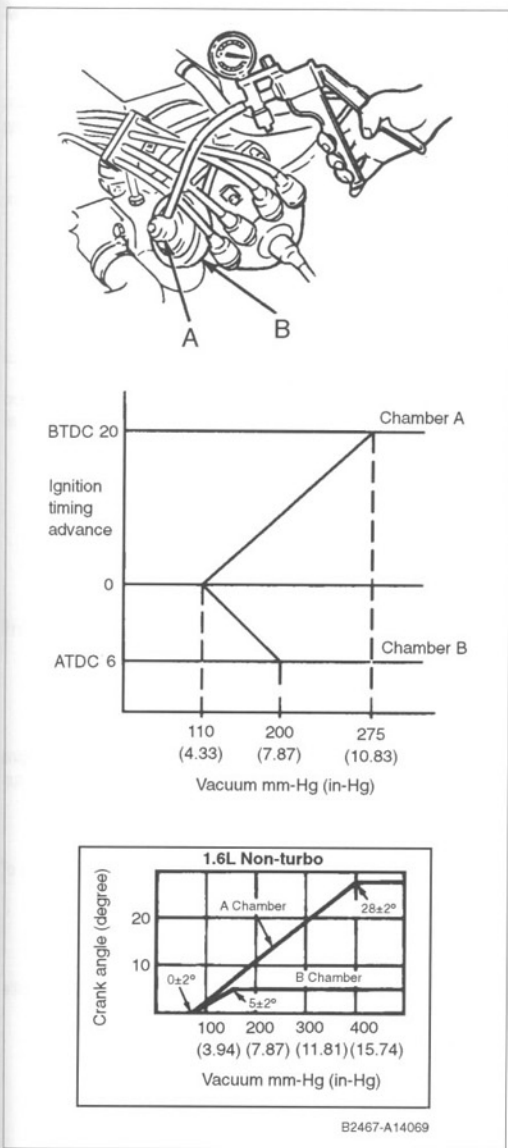

Fig. 4-7. Check vacuum diaphragm, 2.2L Turbo and non-Turbo, 1.6L non-Turbo.
1. Check vacuum advance/retard, engine idle. Connect vacuum tester to vacuum diaphragm. Apply vacuum to Chamber A, and note timing. See Fig. 4-7.